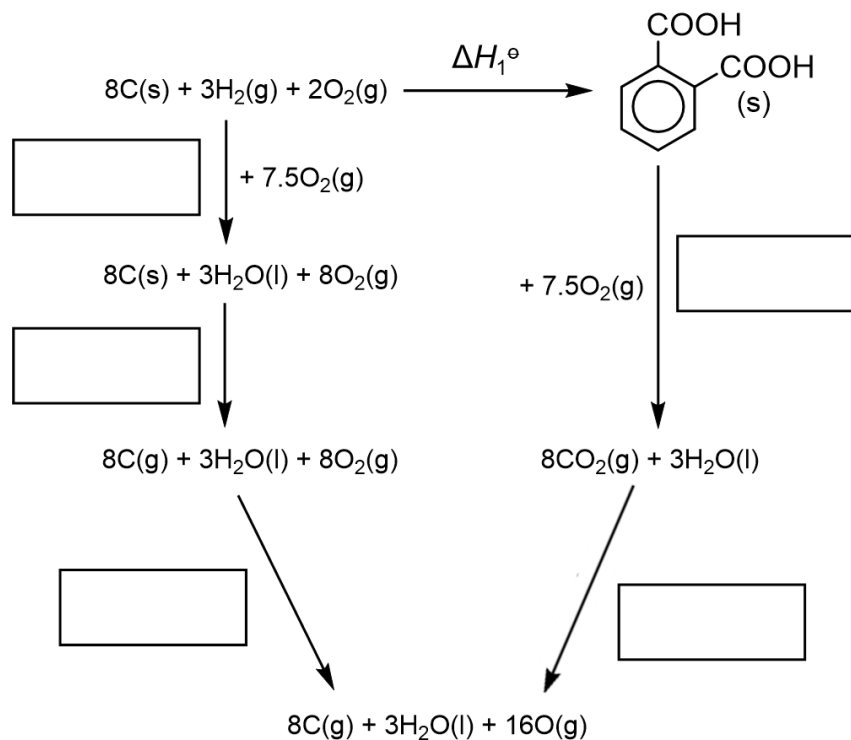

Fig. 5.1
Figure 5.1 shows an energy cycle.
- (ii) State what the enthalpy change, ΔH_1° , in Fig. 5.1 represents.
Using relevant data from Table 5.3 and the *Data Booklet*, complete Fig. 5.1 by filling in the values in the boxes. [3]